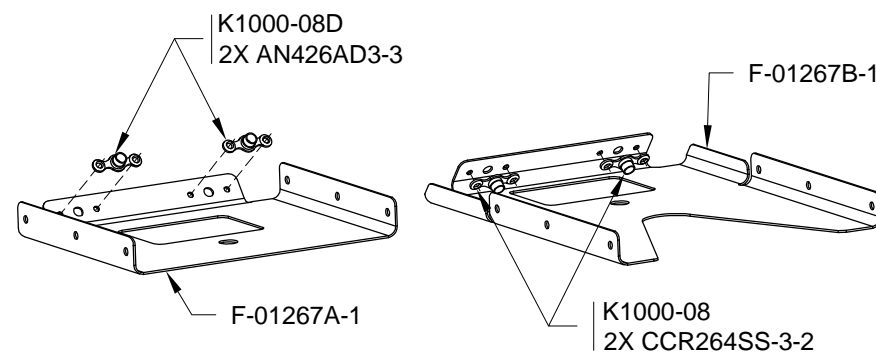

FIGURE 1: ATTACHING NUTPLATES TO F-01267A-1 & F-01267B-1
Step 1: Dimple #40 the nutplate attach holes in two F-01267A-1. See Figure 1.
Step 3: Using the rivets called out in Figure 1, rivet the nutplates to two F-01267A-1 and to two F-01267B-1.